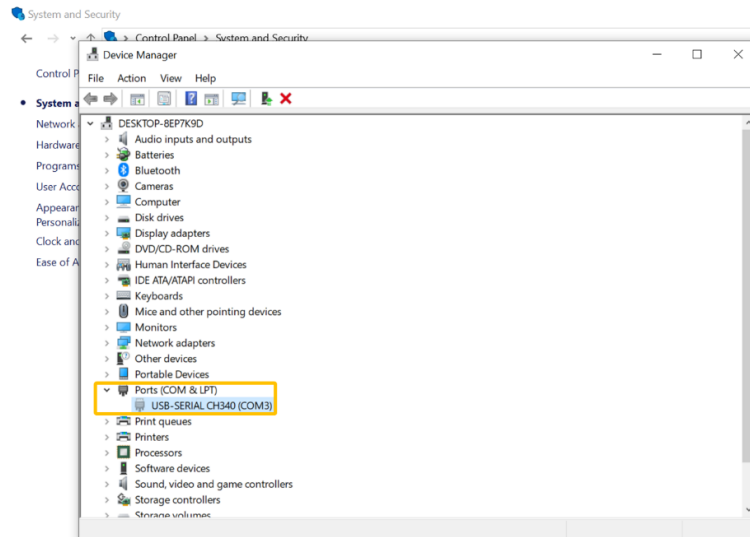

Figure 3.6 Serial port drive information of the WLKATA Mirobot manipulator
(1) Ensure to connect the manipulator to the computer by using the supplied USB data cable.
(2) Open the **Device Manager** in your PC windows system. Ensure to tick the **Show hidden devices** option in the **View** menu. If the "**USB-serial ch340 (COM4)**" can be found in the **port (COM and LPT)**, it means the driver is installed successfully, as shown in Figure 3.6. The port number following the COM may be different depends on the default driver installation of your system.